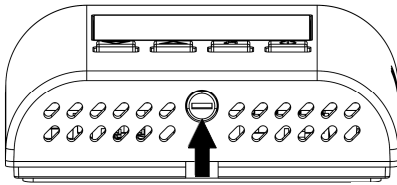

Fig. 2
- 1 Push, with the help of a screwdriver, the plastic tooth located on the slot on the bottom side, then slightly lift up the plastic cover (Fig. 2).